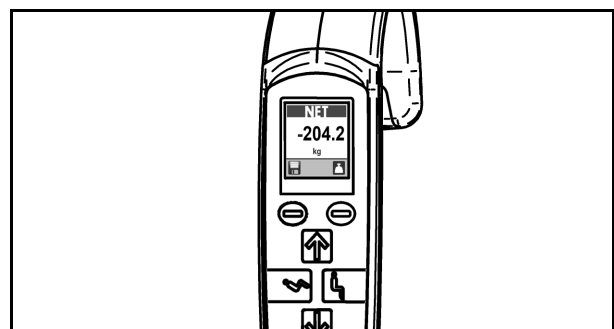

Fig. 63
2. Complete the transfer of the patient and remove the patient from the lift. The scale will display a negative number (see Fig. 63).